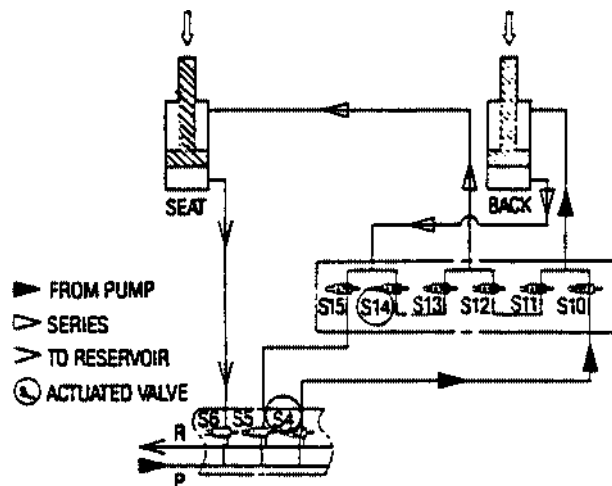

Figure 6-18. Flex Schematic
• **Flex/Reflex** (Figures 6-18 and 6-19)